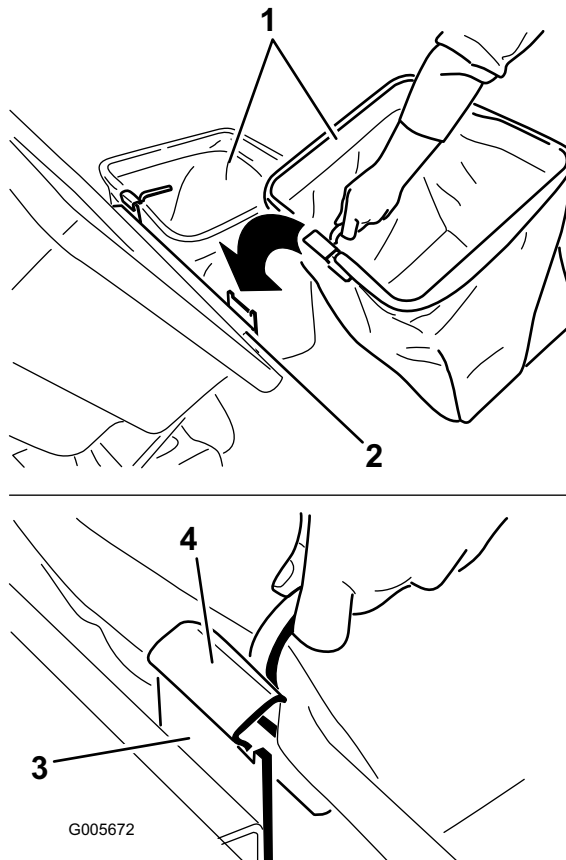

Figure 19
5. Install the bags by sliding the bag frame hooks onto the retaining brackets (Figure 19).